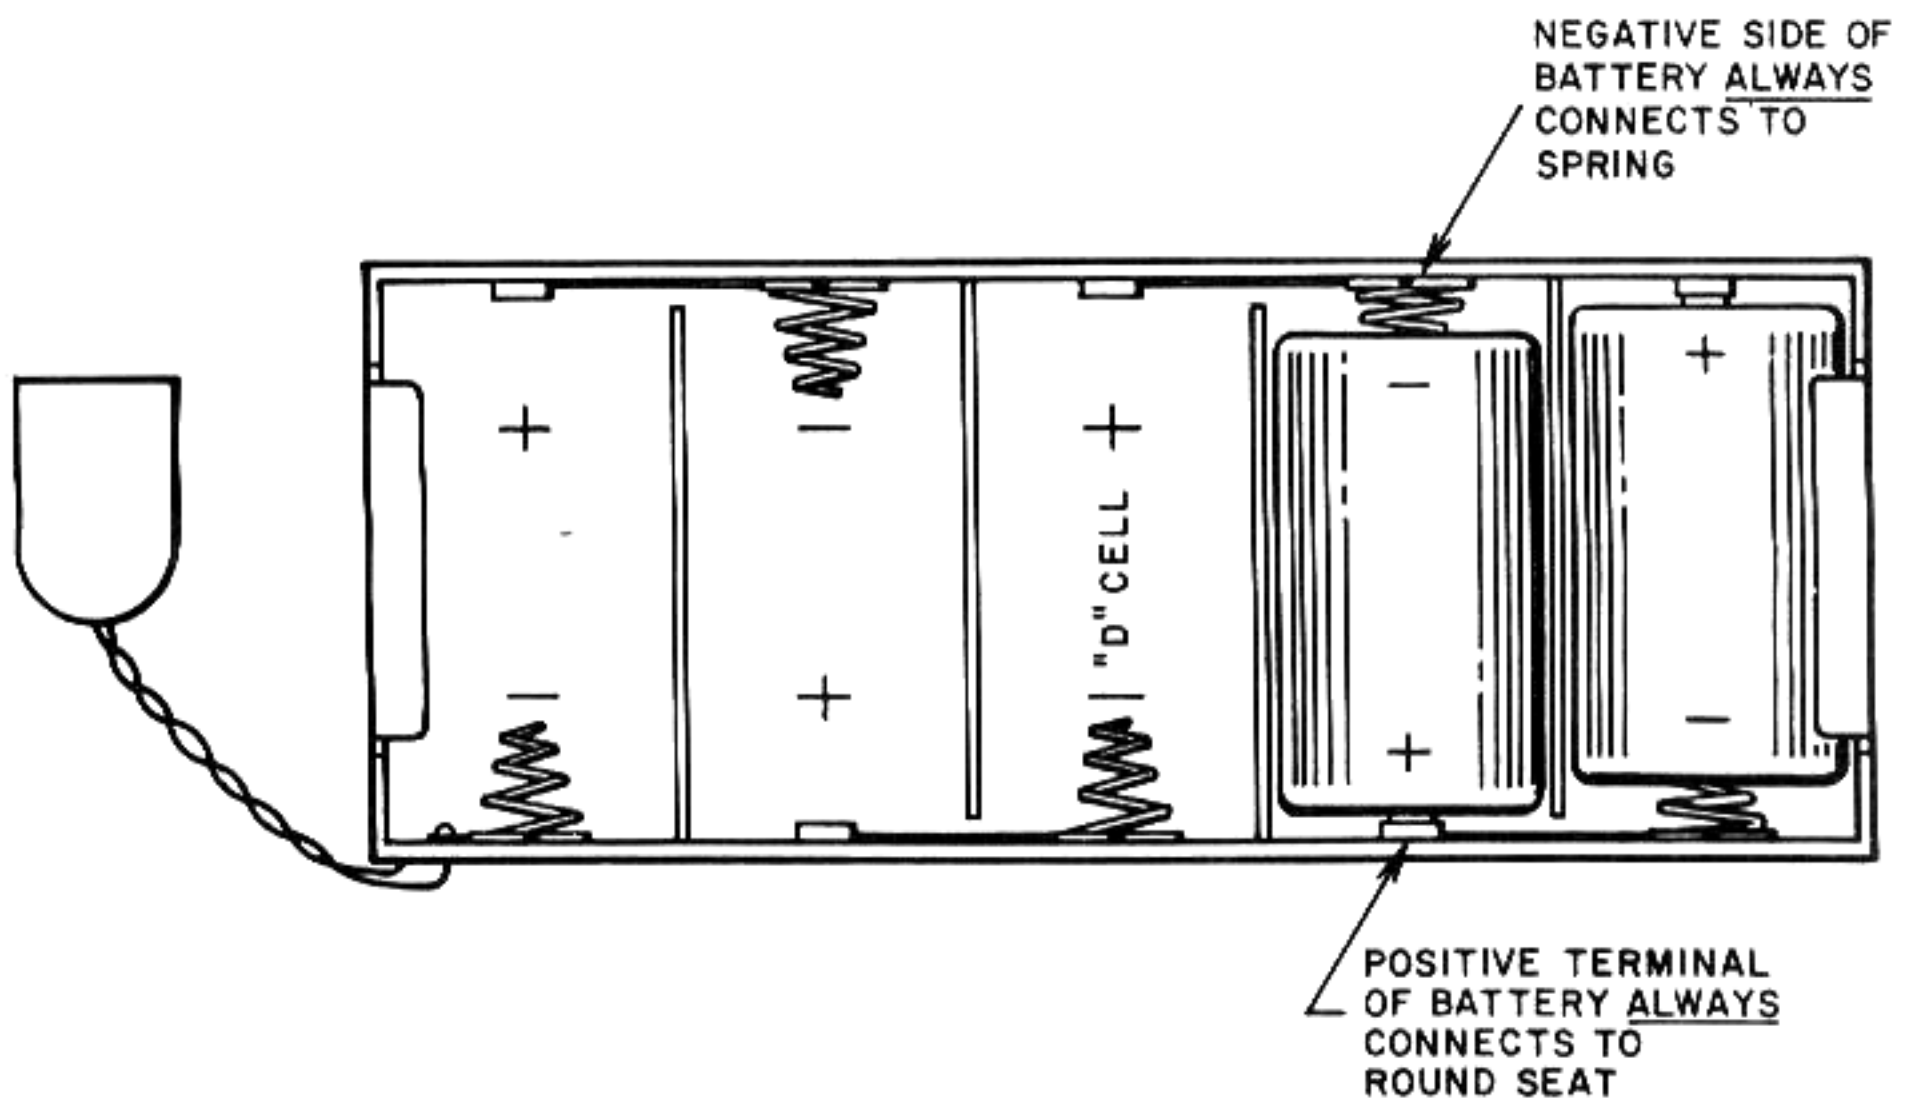

FIGURE 3
2. Insert the ten "D" size batteries (or nickel-cadmium rechargeable cells) into the plastic compartment. Be sure to observe proper polarity. The spring always makes contact with the outside (negative) case. The positive terminal always rests in the round seat provided (see Fig. 3).